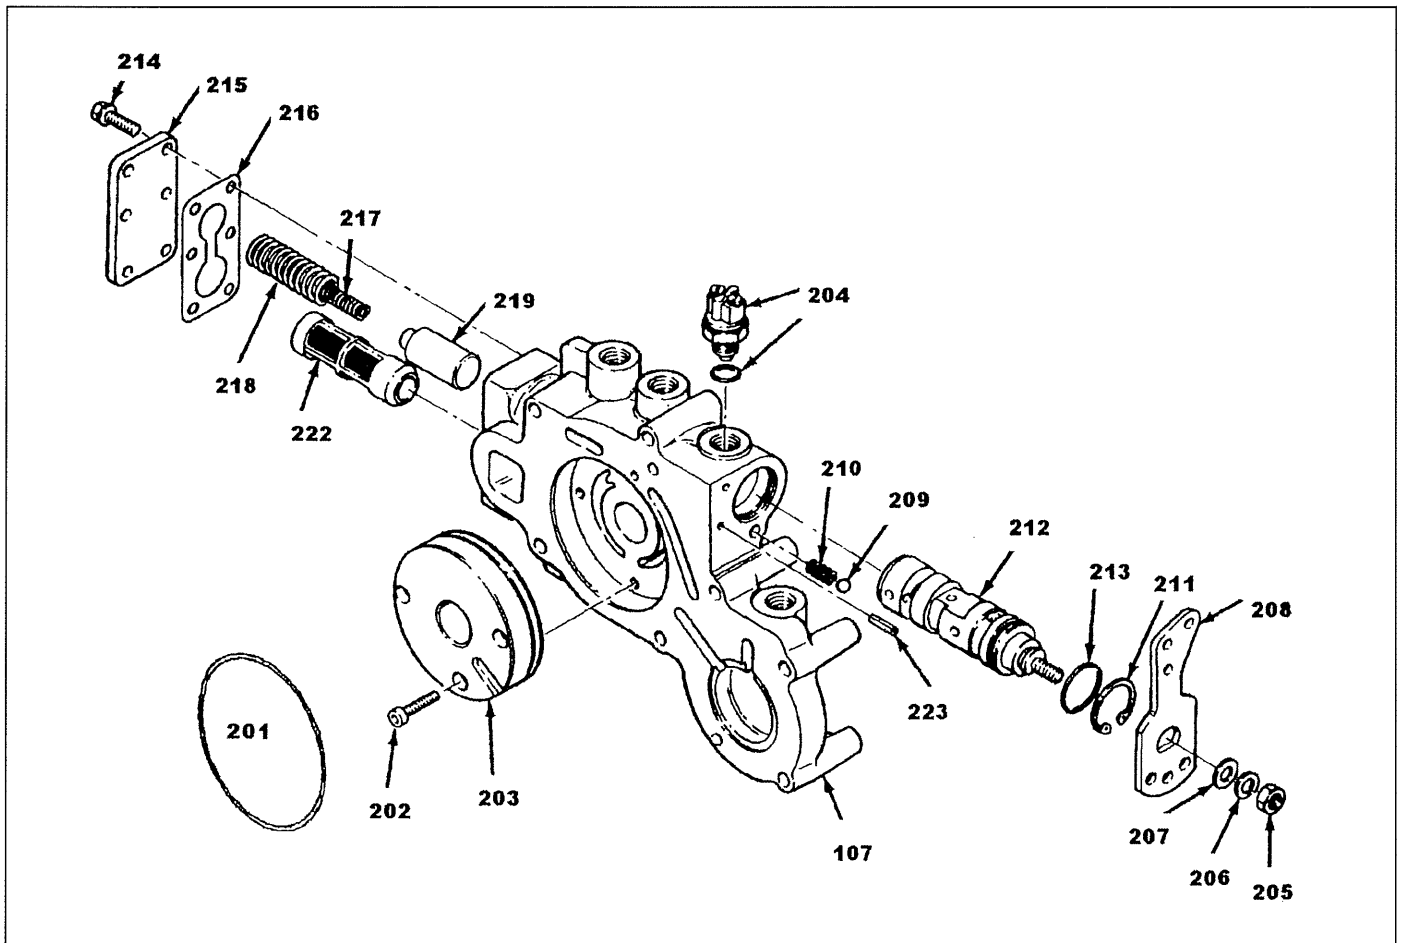

Figure 1-12: Valve & Pump Assembly
REMOVAL OF PUMP, CONTROL VALVE, SWITCH AND TRANSMISSION SHIFT LEVER Proceed as follows (see figure 1-12):
1. Remove the neoprene o-ring (201) see Figure 1-12, three bolts (202) and pump assembly (203). The pump contains matched parts and must be replaced as an assembly.
Proceed as follows (see figure 1-12):
1. Remove six bolts (214), cover plate (215), gasket (216), spring(s) (217 and/or 218).
2. Remove washer (221) (if used) and valve (219) (see figure 1-12).
3. Remove two o-rings (220) from valve (219).